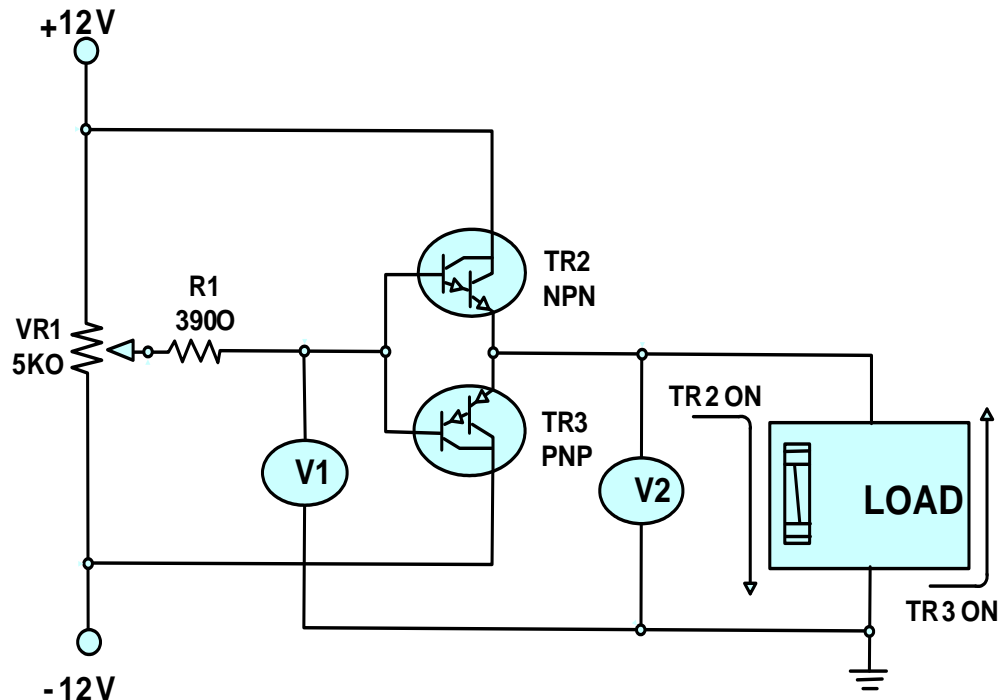

Figure 15.2
The circuit diagram is shown in figure 15.2.
1. Assemble the circuit shown in figure 15.2.